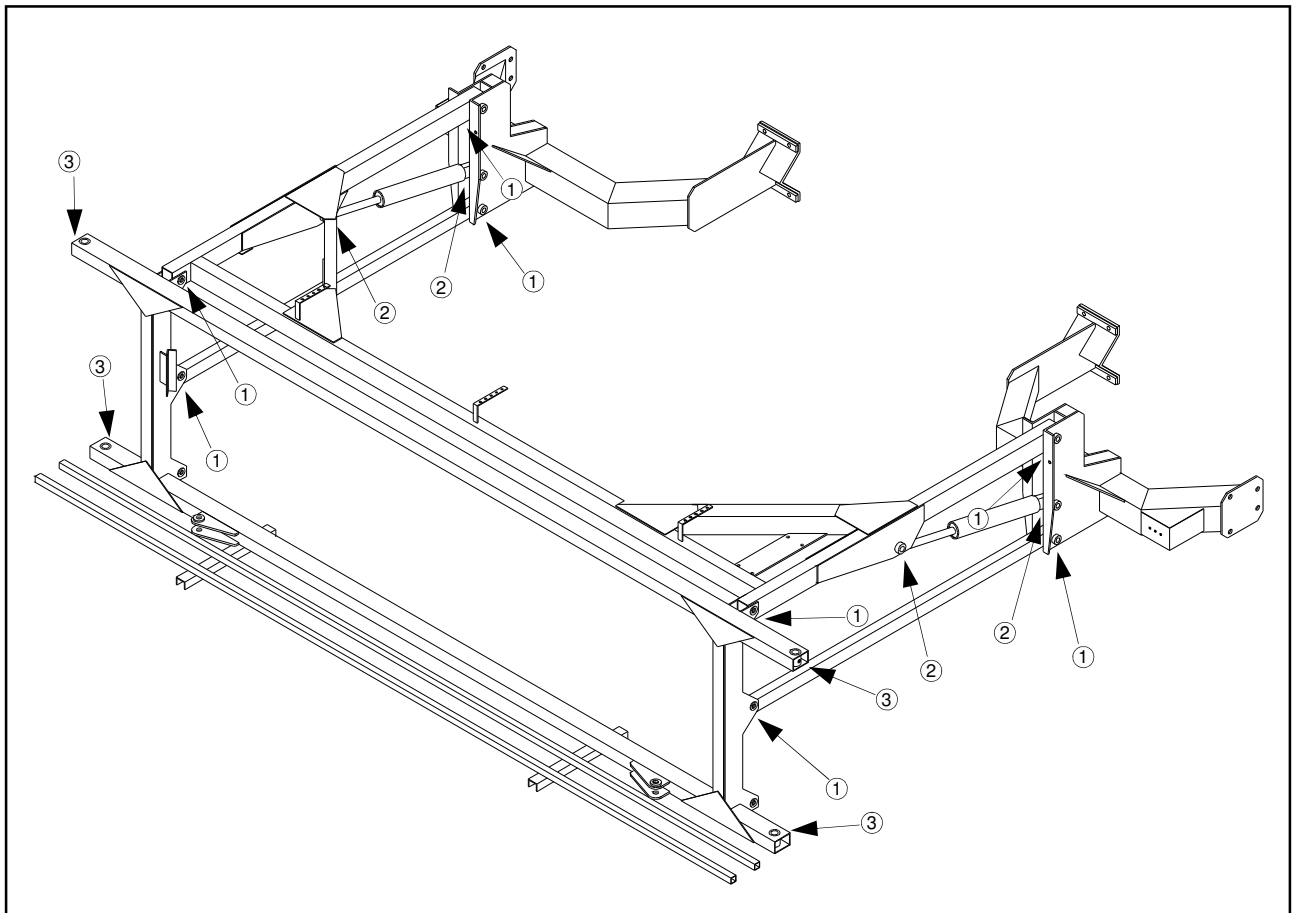

FIG 8.31
Lift arm lift pivots: eight places (fig. 8.31, items 1)
Lift cylinder pivots: four places (fig. 8.31, items 2)
Boom fold pivots on transom: four places (fig. 8.31, items 3)